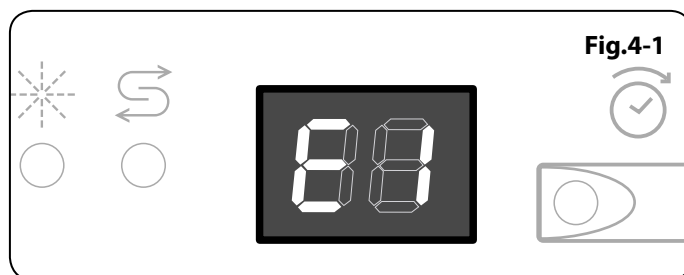

Fig.4-1
- When the time remaining indicator blinks 'E1' (**Fig.4-1**). Have you checked if the door is closed properly?